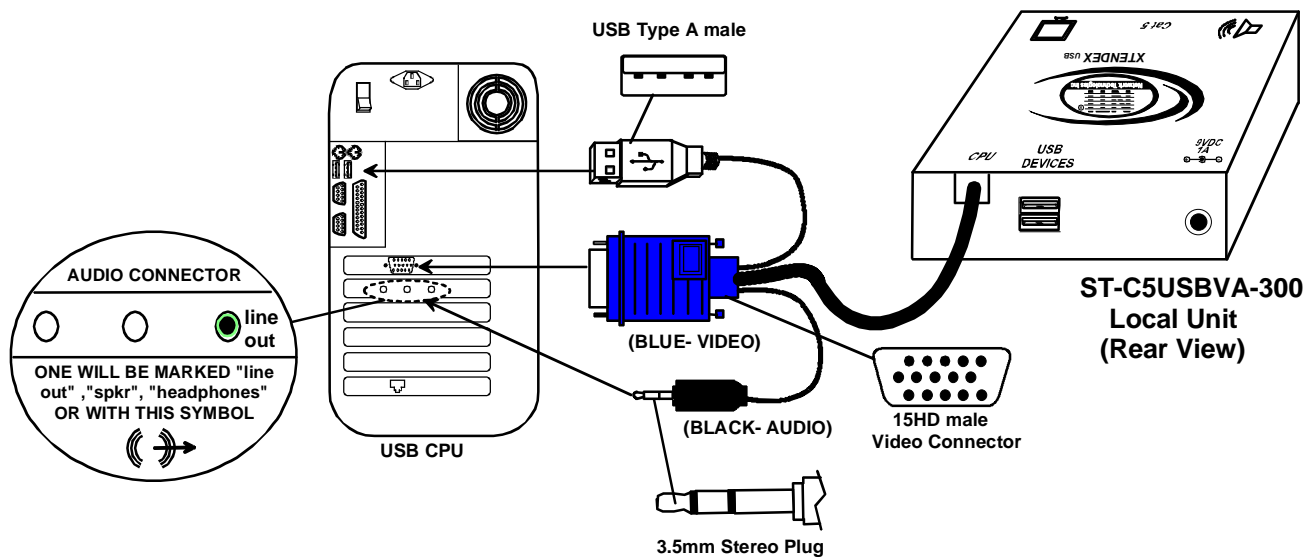

Figure 2- Local unit with audio support connects to CPU
- c) If the Local Unit has Audio support (ST-C5USBVA-300 only), connect the black 3.5mm stereo plug into the "line out", "spkr", or "headphones" jack on the back of the CPU. (See Fig. 2)